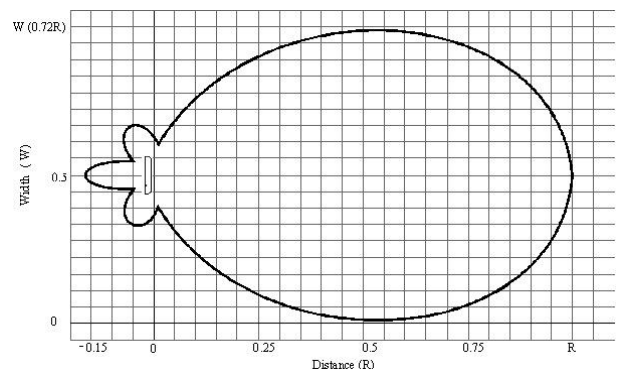

Figure 2. Effective RF Field for LR-3000 Reader
7. Results: When the tag is in the RF field (Figure 2), the LED flashes 3 times per second. Maximum range "R" may be 35-40 feet.